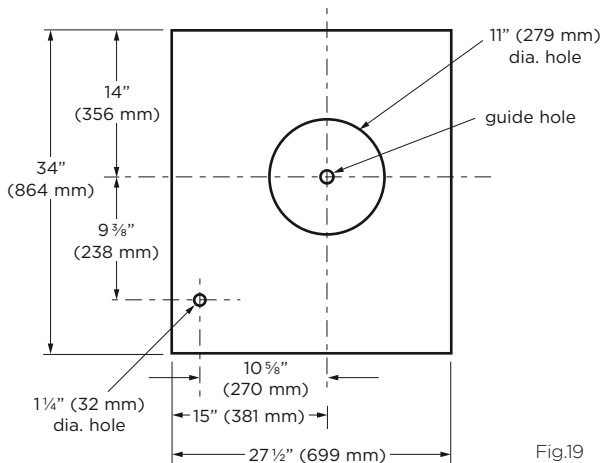

Fig.19
- Mark a 27½" x 34" (699 x 864 mm) rectangle on wall as indicated in Fig.19.
- Mark an 11" (279 mm) diameter circle around guide hole as indicated in Fig.19.
- Mark the center of the 1¼" (32 mm) diameter hole for electrical wiring as indicated in Fig.19.
- From the outside, using the guide hole as a starting point, mark the rectangular cut-out as indicated in Fig.19. Remove ONLY the roof shingles in THIS AREA.
- Use dimensions from Fig.19 to locate the 1¼" (32 mm) diameter wiring hole.